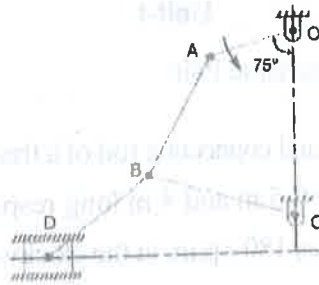

Figure 1
- (c) In Figure 1, the angular velocity of the crank OA is 600 r.p.m. Determine the linear velocity of the slider D and the angular velocity of the link BD , when the crank is inclined at an angle of 75° to the vertical. The dimensions of various links are $OA = 28$ mm; $AB = 44$ mm; $BC = 49$ mm and $BD = 46$ mm. The center distance between the centers of rotation O and C is 65 mm. The path of travel of the slider is 11 mm below the fixed point C . The slider moves along a horizontal path and OC is vertical.